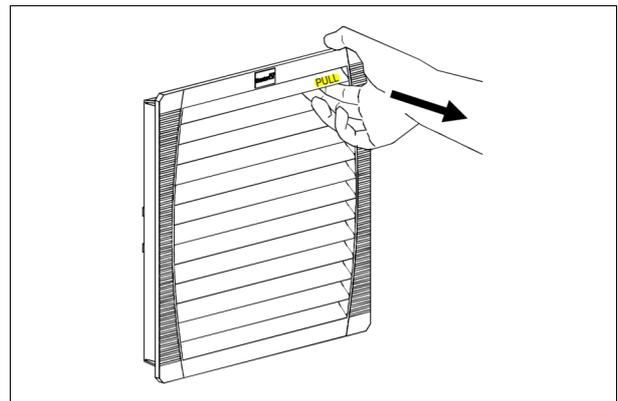

Fig. 27
- Open the louvred grilles of the inlet filter (Fig. 27).